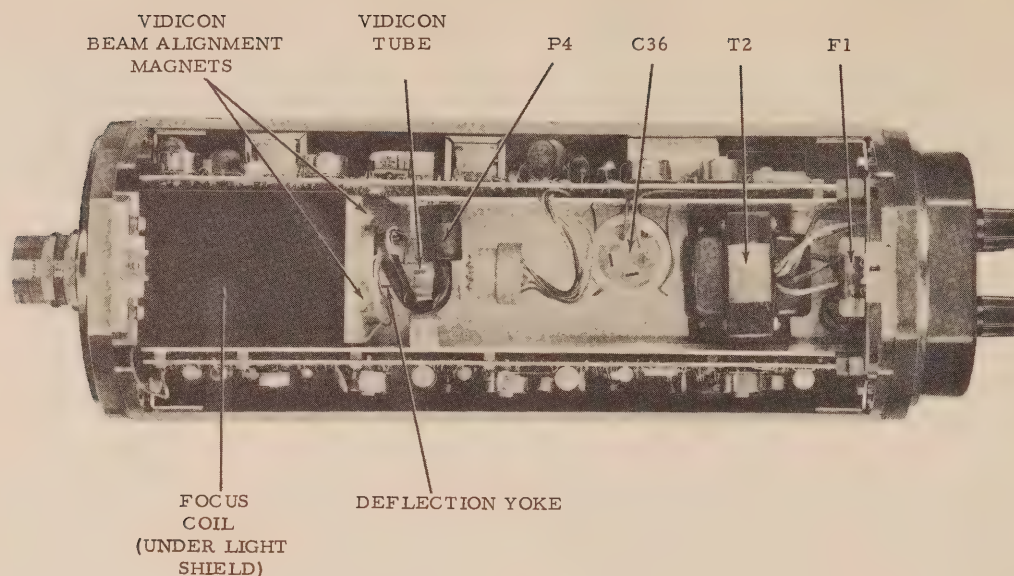

Figure 10.
(c) If necessary, adjust the picture tilt. Refer to Figure 10.
2. Loosen yoke screw next to beam magnet. Refer to Figure 10.
2. Adjust the beam magnets (shown in Figure 10) by loosening the holding screws and rotating them.